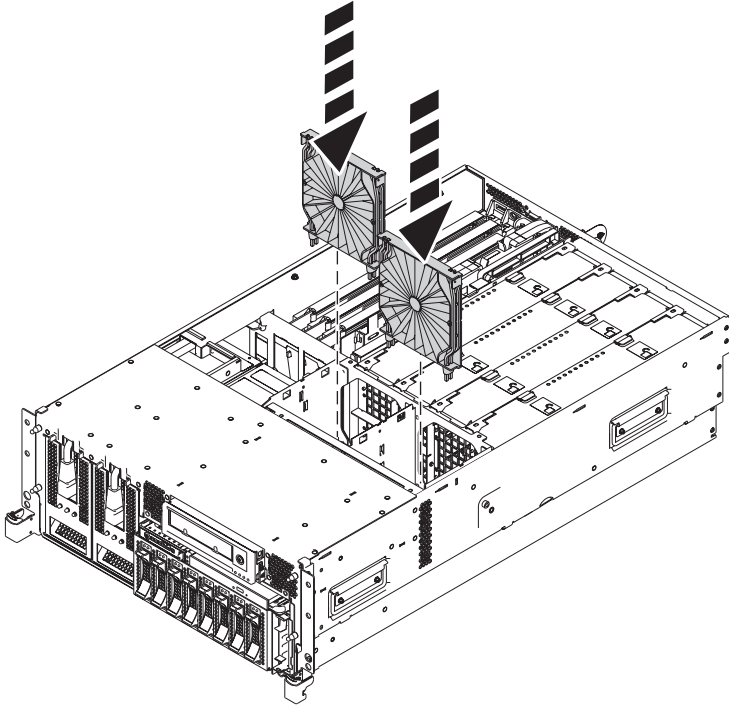

Figure 16. Installing the air baffles in the fan cage
- b. To install the air baffles, insert the air baffles into their locations in the fan cage, and push down until they lock into place, as shown in Figure 16 on page 15.